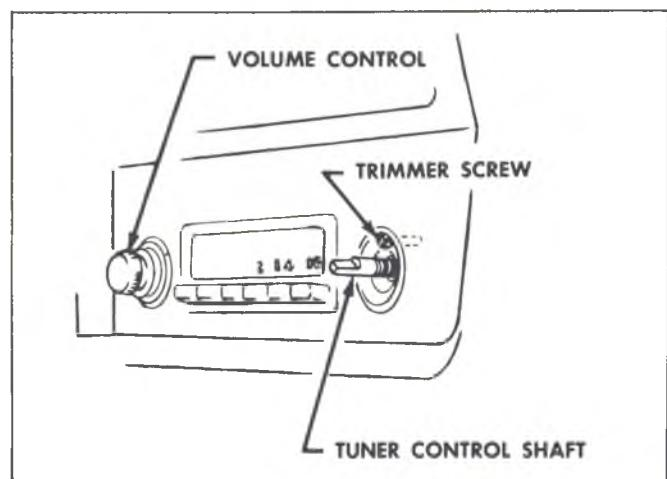

Fig. 1--Trimming Radio
6. Adjust the antenna trimmer screw ($\pm 2^\circ$ screw rotation) until maximum volume is received (fig. 1).